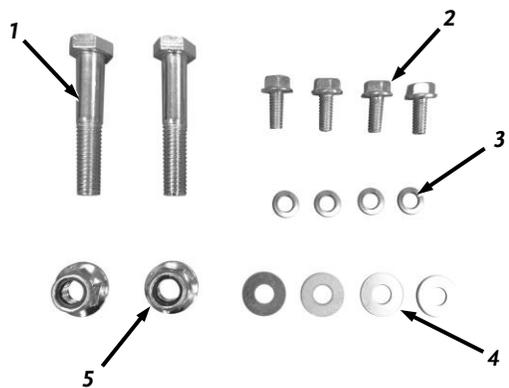

Figure 6
**Power Unit Hardware (Figure 6):**
(Use Power Unit Hardware Package, see Figure 6)